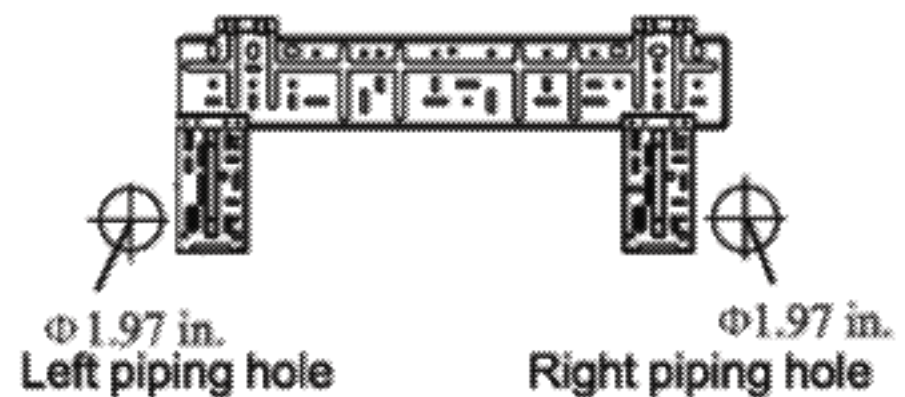

Fig.1
1. Make the piping hole (  $\Phi 1.97$  in ) in the wall at a slight downward slant to the outdoor side. (Shown in Fig. 1)